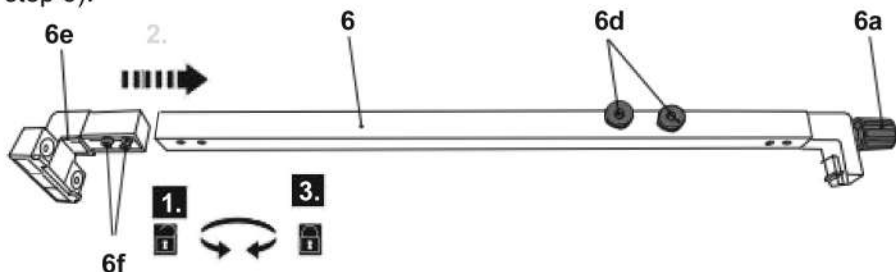

fig. 1
- > Remove the screws (6f) from the holder (6e) (fig. 1, step 1).
- > Slide the handle (6e) into the parallel fence (6) (fig. 1, step 2). Align the mounting holes in the holder with the holes in the guide.
- > Secure the holder with the screws using a suitable Phillips screwdriver (fig. 1, step 3).